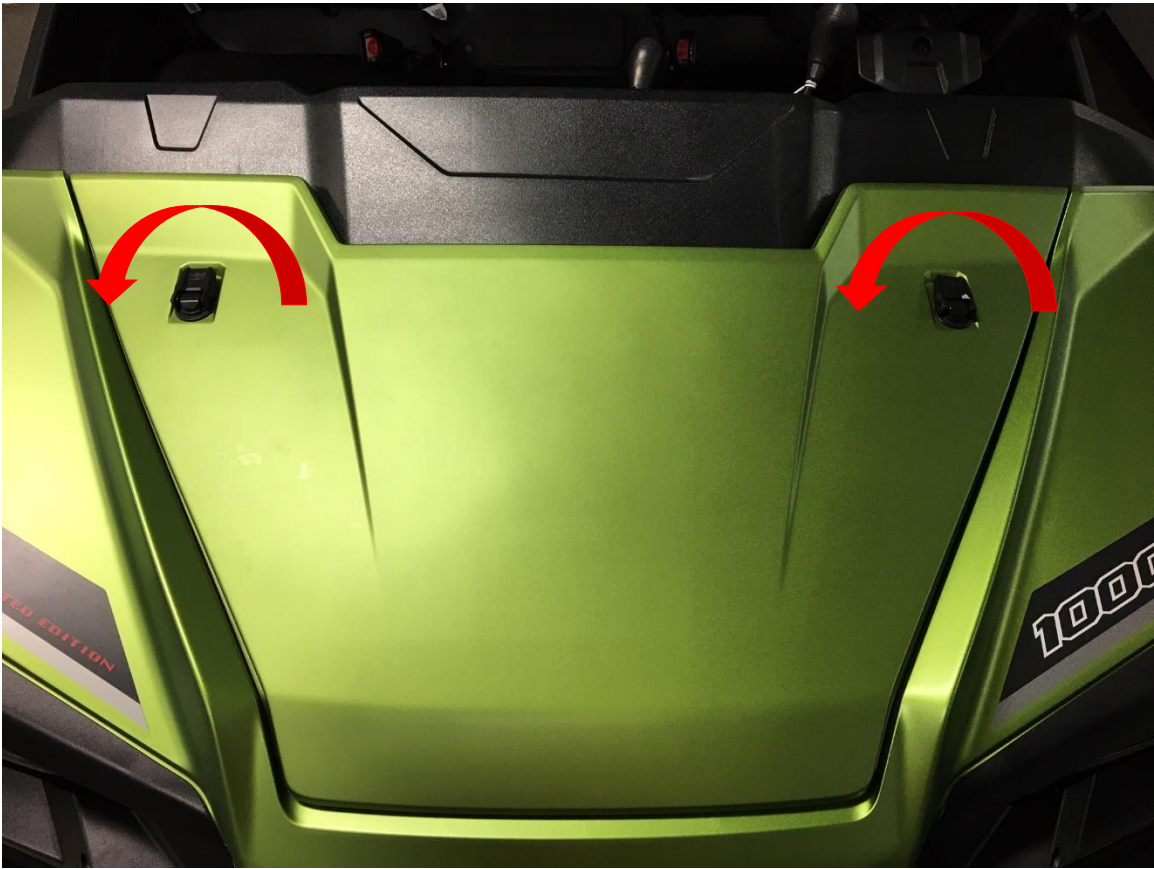

Figure 12: Remove the radiator hood access panel.
10. Remove the radiator hood access panel from the front of the vehicle by lifting and rotating the ¼ turn clips, lifting the hood, and sliding it towards the front of the vehicle. See Figure 12.